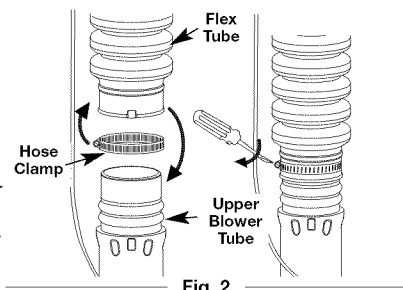

Fig. 2
1. Place a hose clamp over the other end of the Flex Tube (Fig. 2).
2. Slide the end of the hose with the clamp on it over the top end of the upper blower tube and tighten the screw on the hose clamp (Fig. 2).